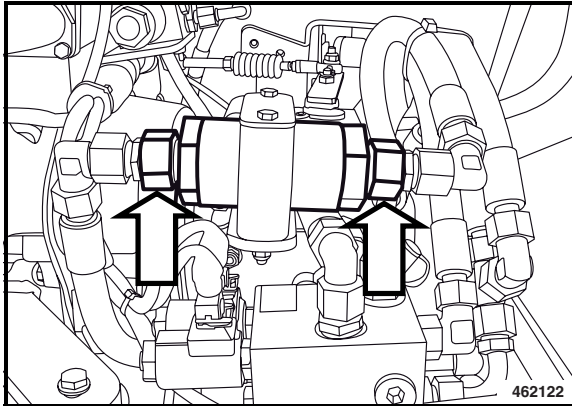

Fig. 160
- Clean the area around the high pressure filter (Fig. 160).